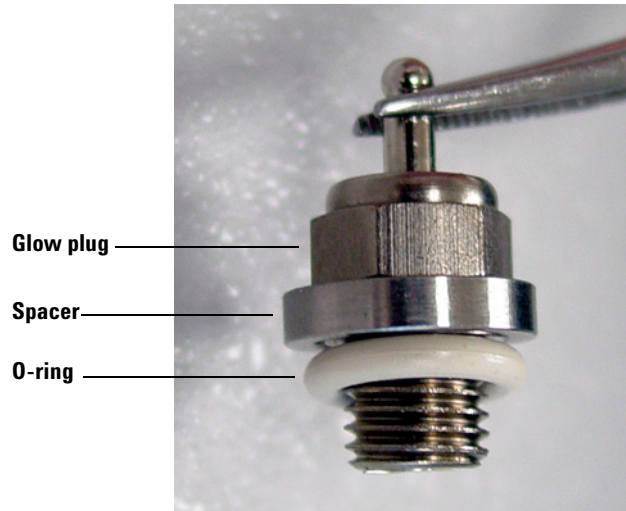

Figure 39 Ignitor parts assembled
- 6 Assemble the parts for the new ignitor (Figure 39).